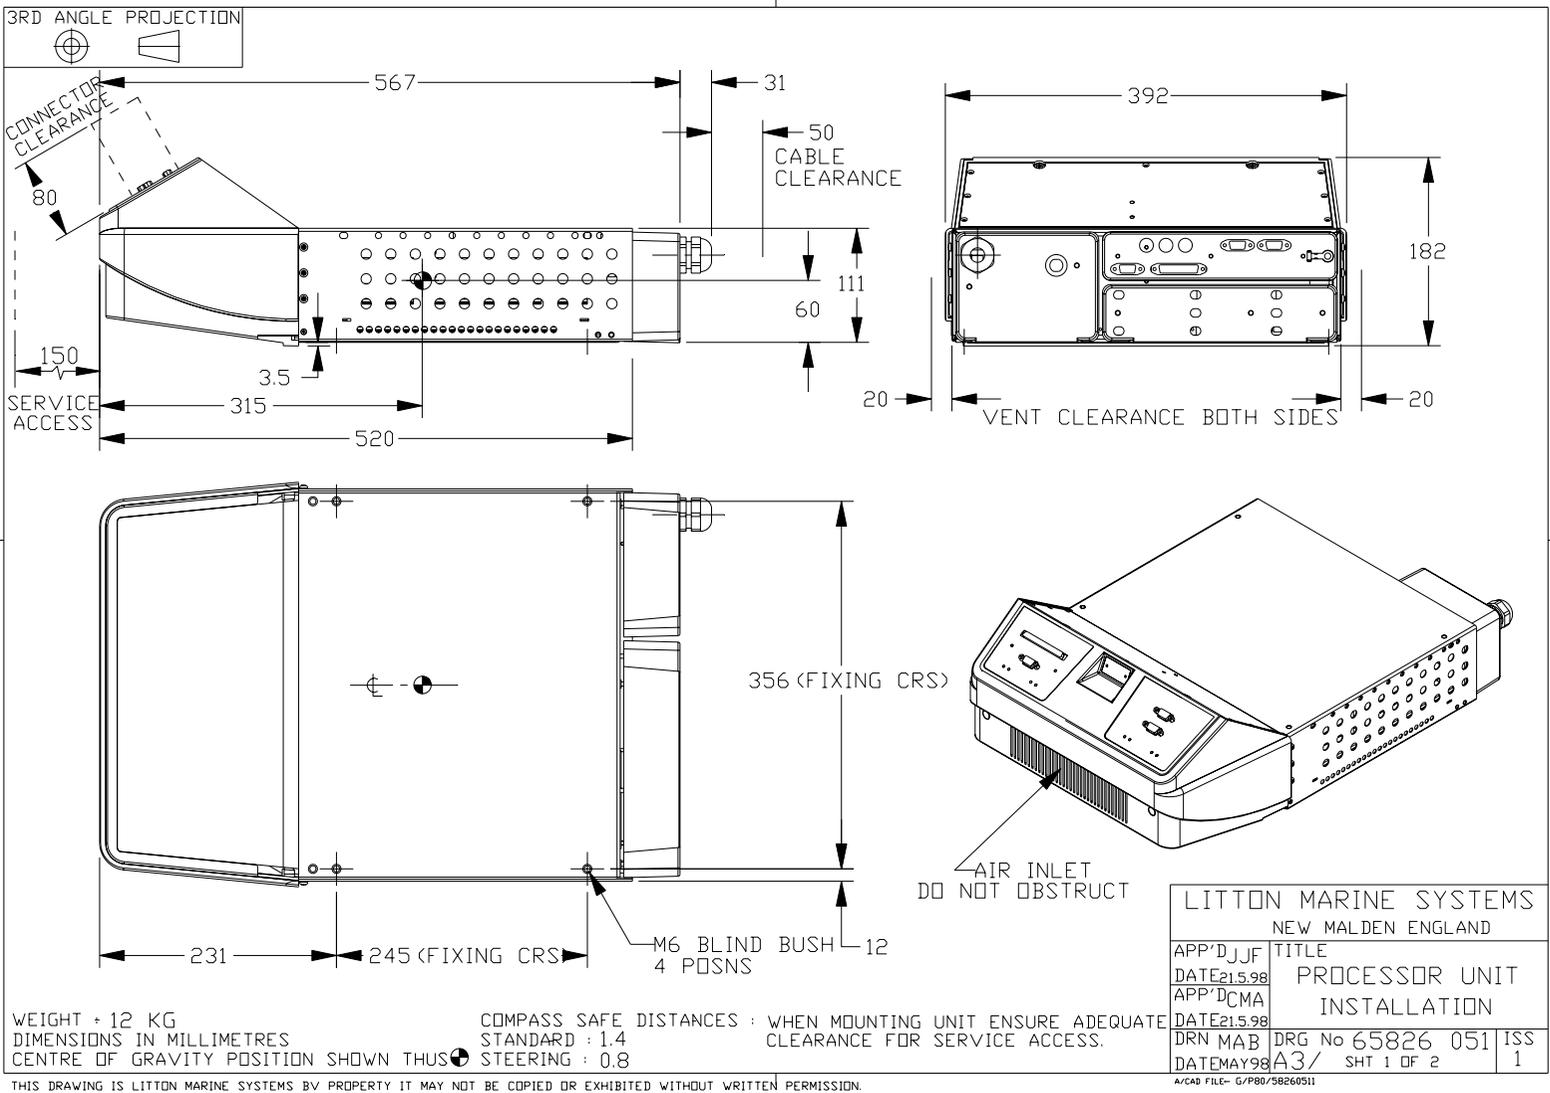

Figure 4.1 - Processor Unit Installation (Sheet 1 of 2)
When used with 180 and 250 display units, the PEU assembly is designed to be mounted as an integral part of the display unit, see Chapter 3 and Figures 4.1 and 4.3.
- Refer to Figures 4.1 and 4.2 for installation of this unit.